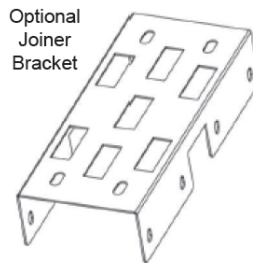

Figure 8
1. If row mounting is desired, remove knockouts on the ends of abutting fixtures and attach optional joiner bracket to the top of abutting fixtures (Figure 8).